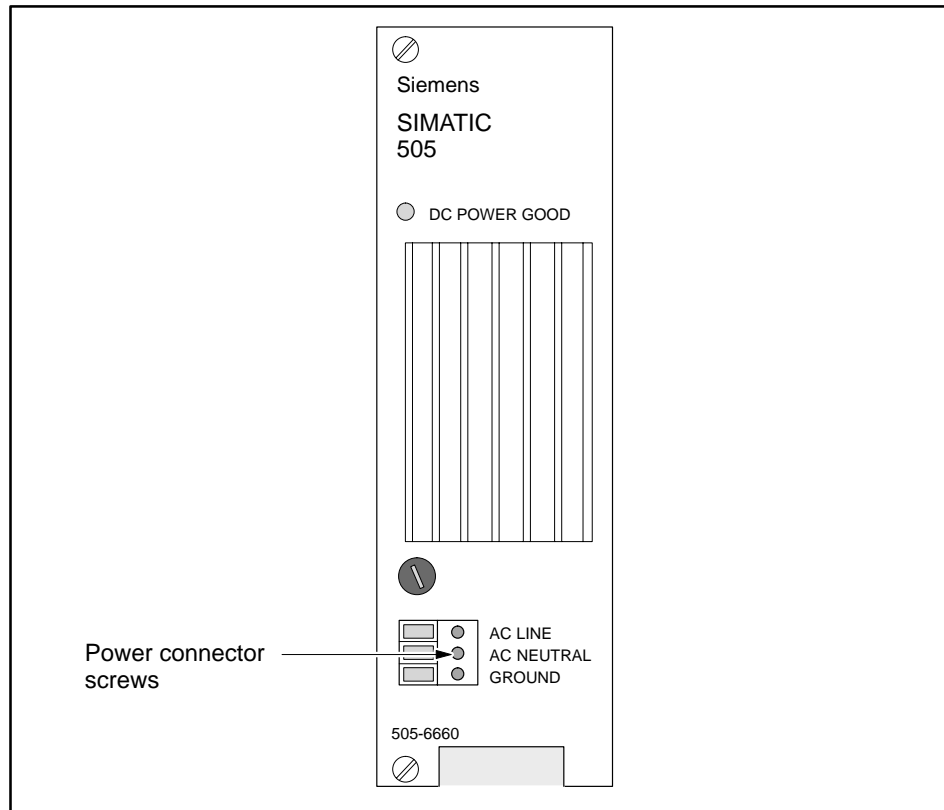

Figure 3-5 Series 505 Power Connector
3. Insert wires as appropriate for your power supply module, and tighten screws to no more than 5 in-lb (0.56 N-m) torque. Figure 3-5 shows the location of the power connector screws on the module. (Consult Section 2.8 for grounding guidelines.)